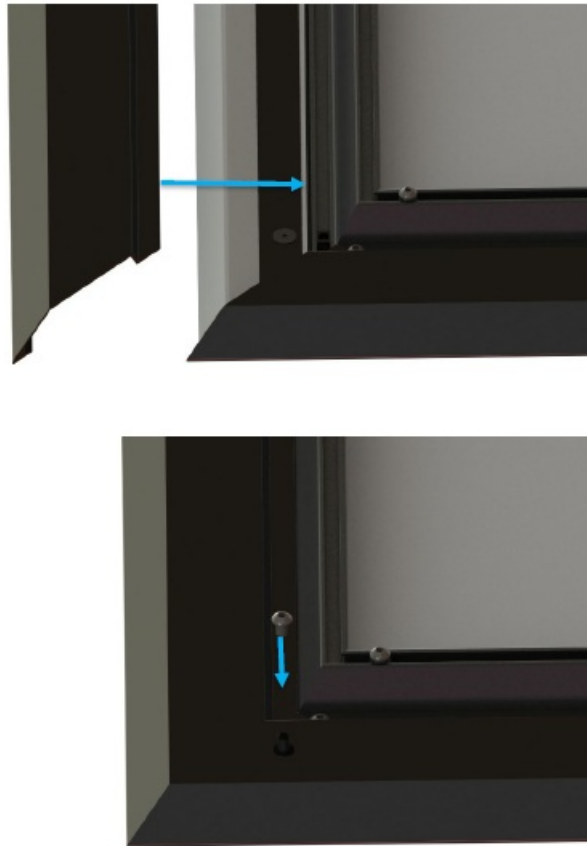

Figure 18: Border trim installed onto frame
5. Secure the trim in place using screws previously removed during Step 1 (see Figure 18).